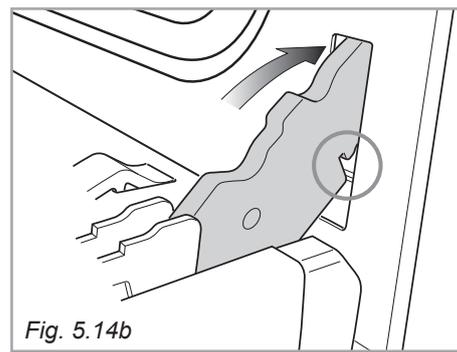

Fig. 5.14b
- Insert the hinge tongues into the slots, making sure that the groove drops into place as shown in the fig. 5.14b.